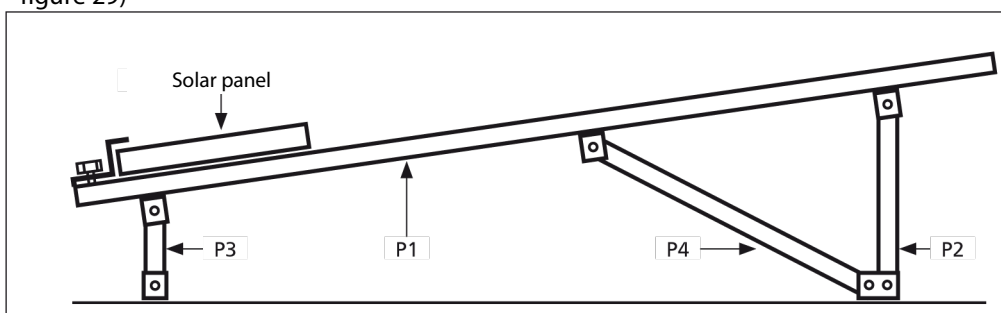

Figure 29
- Fit the photovoltaic module to the two P1 type formed sections and tighten the L attaching screws (see figure 29)